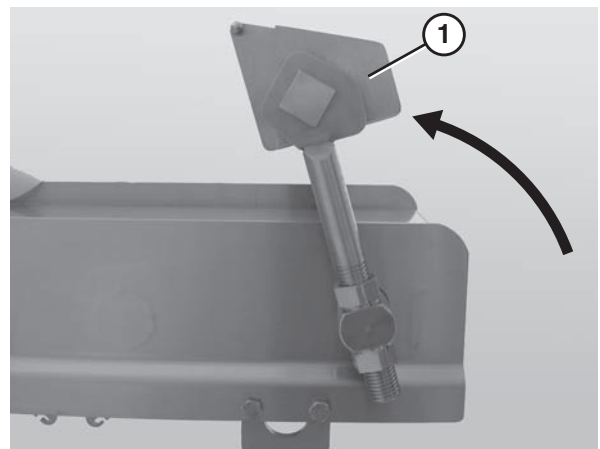

Figure 14
1. Place the idler tail (Figure 14, item 1) in the UP position.